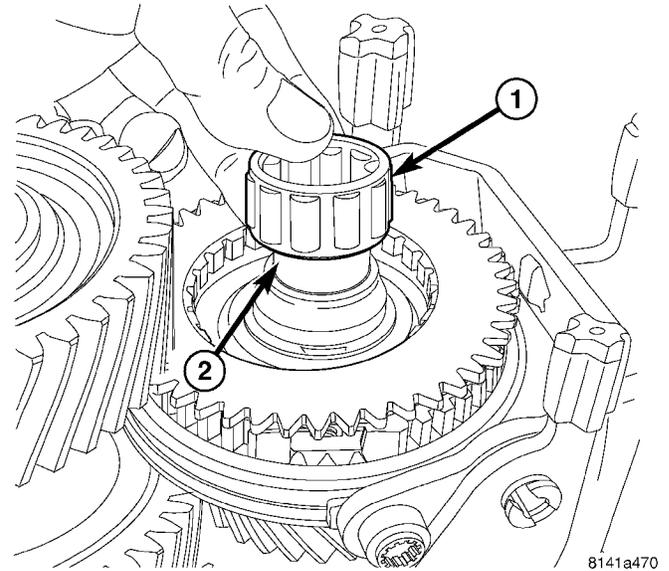

Fig. 108 INPUT SHAFT ROLLER BEARING
(10) Install input shaft (Fig. 108) roller bearing (1) on mainshaft (2)..